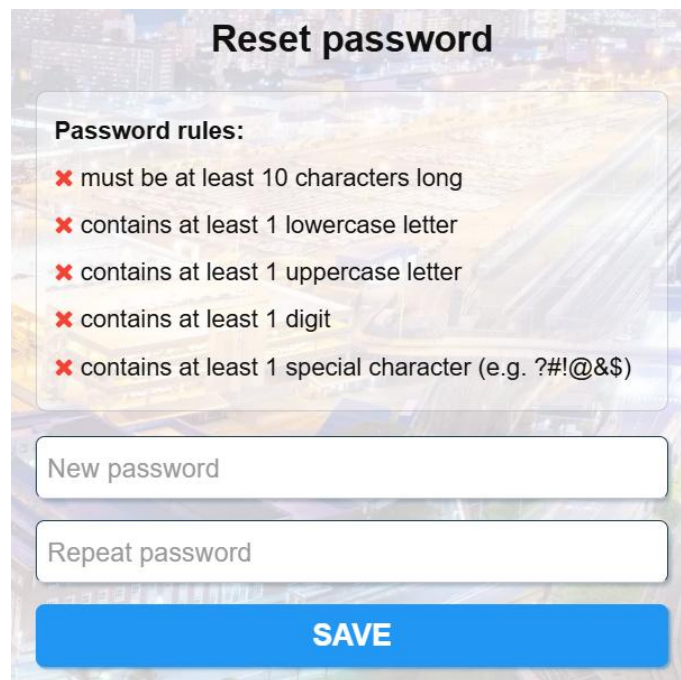

Figure 8 Reset password
5. Click on the link in the email. The Reset Password window will open in your browser (see Figure 8)